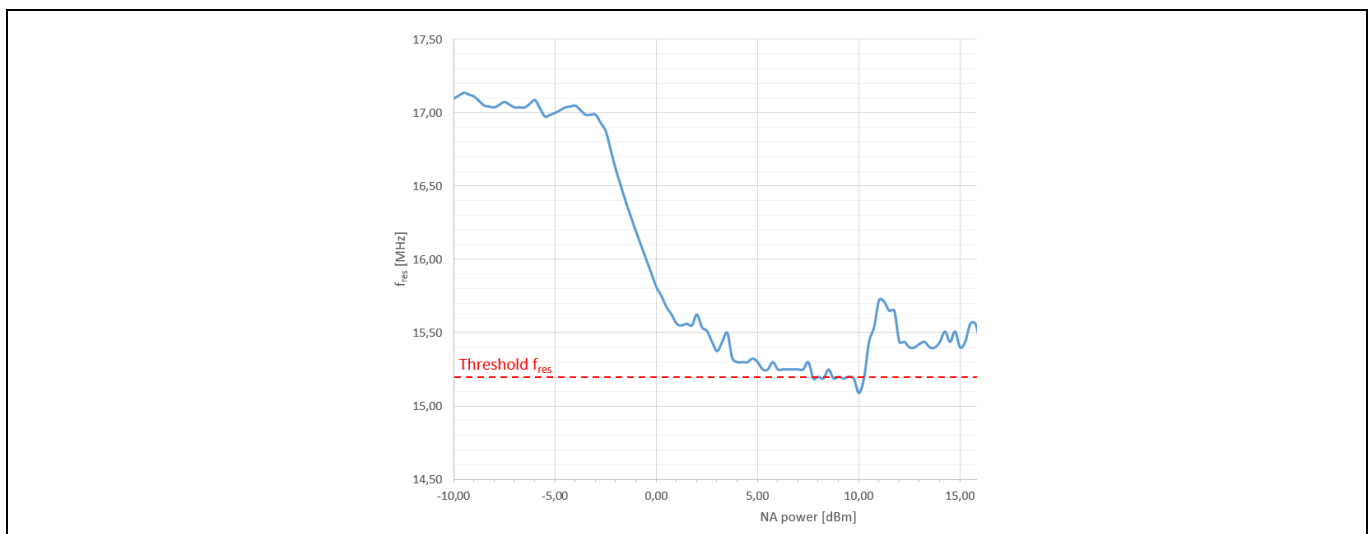

Figure 16 Resonance frequency as a function of the network analyzer output power
7. Determine the threshold resonance frequency as shown in Figure 16